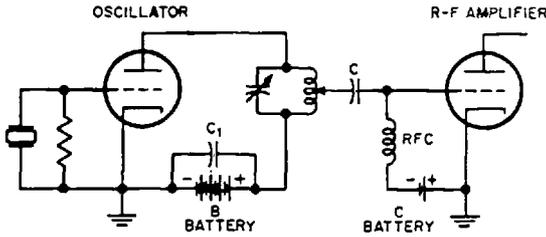

Fig. 41-2. The direct or capacitive method of coupling the oscillator to the radio-frequency amplifier.
**Methods of Coupling—Capacitive Coupling.** There are a number of methods for coupling the oscillator to the radio-frequency amplifier. Simplest is the *direct* or *capacitive-couple* method (Fig. 41-2). Here, the *signal* or *excitation* is fed from the tank circuit of the oscillator, through the coupling capacitor (C), to the grid of the amplifier tube. The coupling capacitor also serves to keep the direct current of the oscillator off the grid of the amplifier tube.